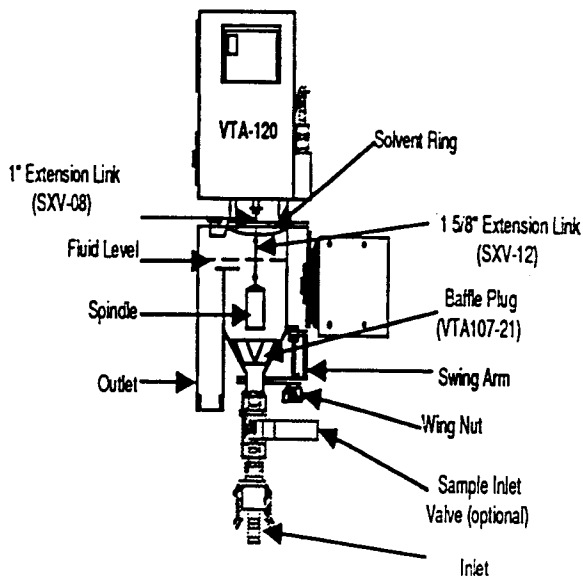

Figure 11: Installing Spindle, Baffle Plug, 1 5/8" Extension Link
- 1) Install the spindle by attaching one end of the long extension (1 5/8") to the spindle, the other to the end of the short extension (1") which is protruding from the VTA-120 through the center clearance hole in the mounting bracket (ref. Figure 11).
- 2) Install the sample chamber by placing the upper rim of the chamber against the horizontal surface. The solvent ring will position and help support the chamber. Position the swing arm at the lower end of the mounting bracket under the sample chamber inlet tube and tighten the wing nut (ref. Figure 11).
- 7) Slowly open the sample by pass valve (ref. Figure 11) to the sample chamber, observing the level in the chamber. The goal is to avoid "overflow" (i.e. more ink throughput than the chamber will accommodate) of the sample chamber, while providing a continuous representative sample flow (0.5 - 1.0 GPM) through the chamber.